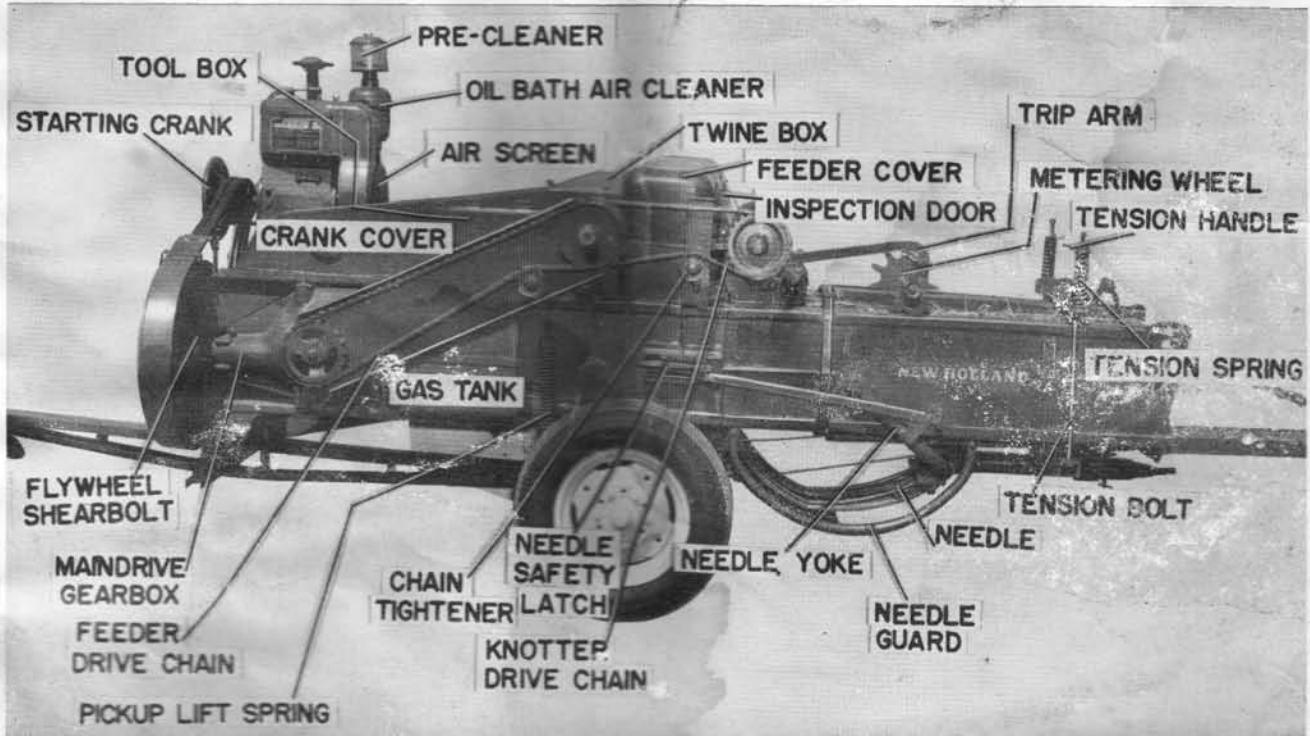

FIGURE 12
Numerous parts of the New Holland Superhayliner 68 Baler are identified in Figure 12. Study this picture carefully—it will help you to understand the names of different parts as they are used throughout this manual.
The density of the material in the bale, and consequently the bale weight, is determined by the amount of tension applied to the tension rail by the bale tension handle, see Fig. 12. Turning the handle clockwise increases the tension and consequently the weight of the bale being formed. Turning the handles counter clockwise decreases the tension and the bale weight. Experience will teach the operator the correct adjustment he needs to provide the desired bale weight in his individual baling conditions.
2. Remove the feeder drive chain. See Figure 12.